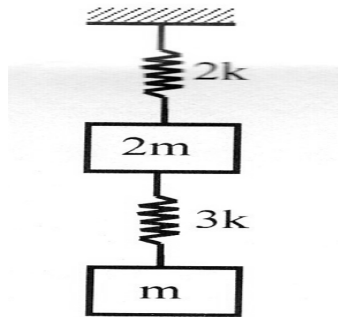

Fig.4, Q. No.9
- 9. Determine the fundamental natural frequency of the system shown in Fig. 4, Q. No. 9 by using (i) Stodola method (ii) Matrix iteration method 20